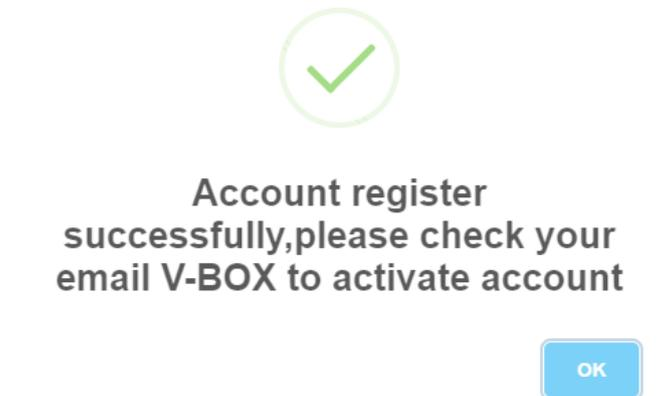

Figure 2-3
- 5) Click "Register" to execute account registration, and below prompt message will display, as Figure 2-3;